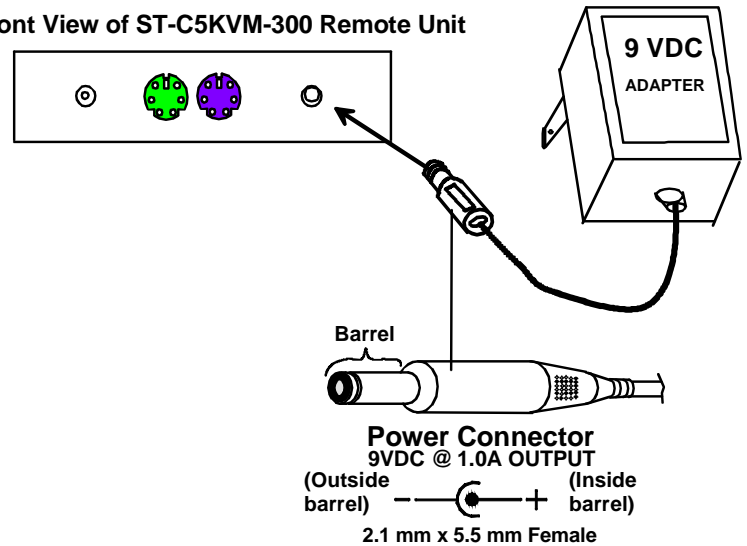

Figure 12- Connect the AC adapter to the Remote Unit
2. Connect the AC adapter power connectors to the 9VDC ports on the Remote and Local Units. Plug each AC adapter into a power outlet. The green LED on the RJ45 connector of the Remote and Local Units should illuminate, indicating that a proper power connection has been made. (See Figure 12.)